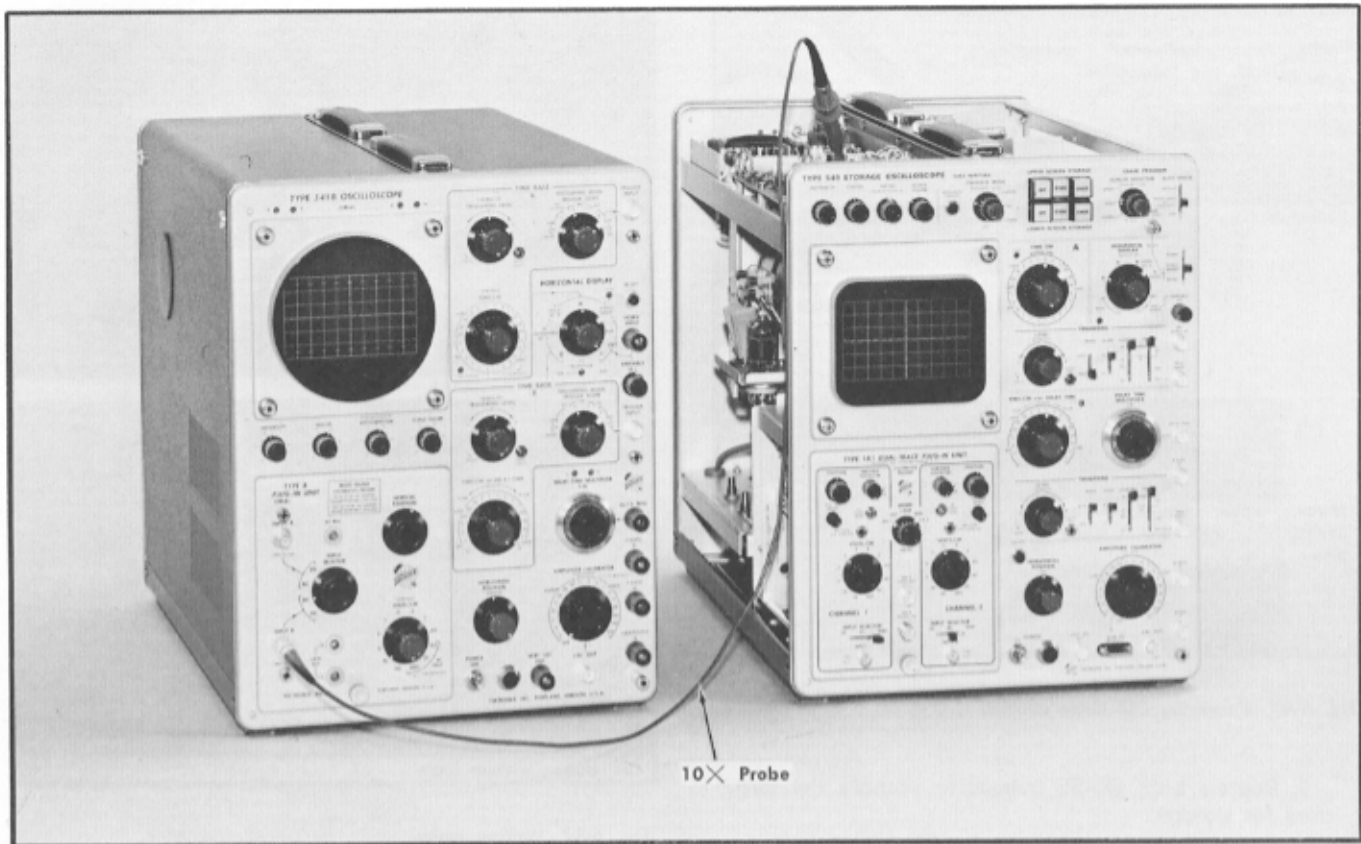

Fig. 6-49. Equipment setup for steps 55 through 58.
a. Equipment setup is shown in Fig. 6-49.